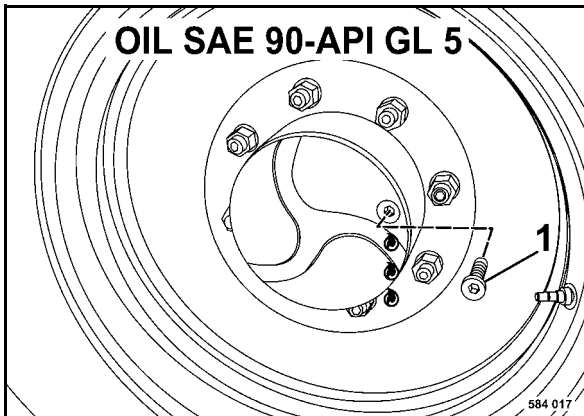

Fig. 67
- Move the machine until the oil level inspection plug 1 (Fig. 67) is in horizontal position.